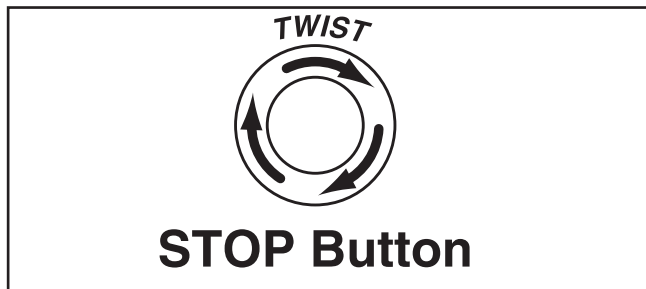

Figure 11. Resetting the switch.
6. Push the stop button in, then twist it clockwise so it pops out. When the stop button pops out, the switch is reset and ready for operation (see **Figure 11**).